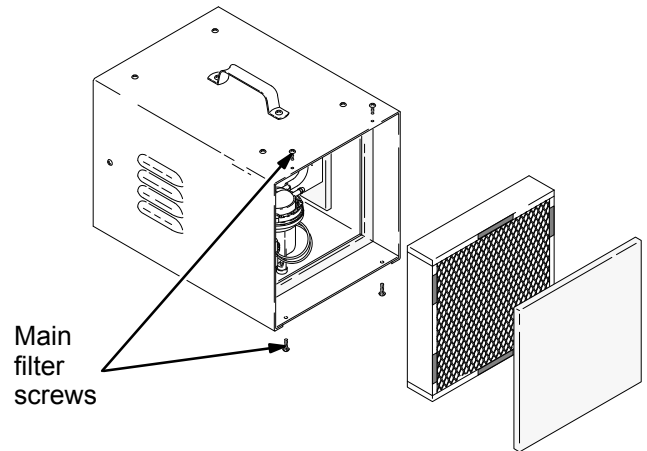

Fig. 5
2. Loosen the four main filter screws. See Fig. 5.